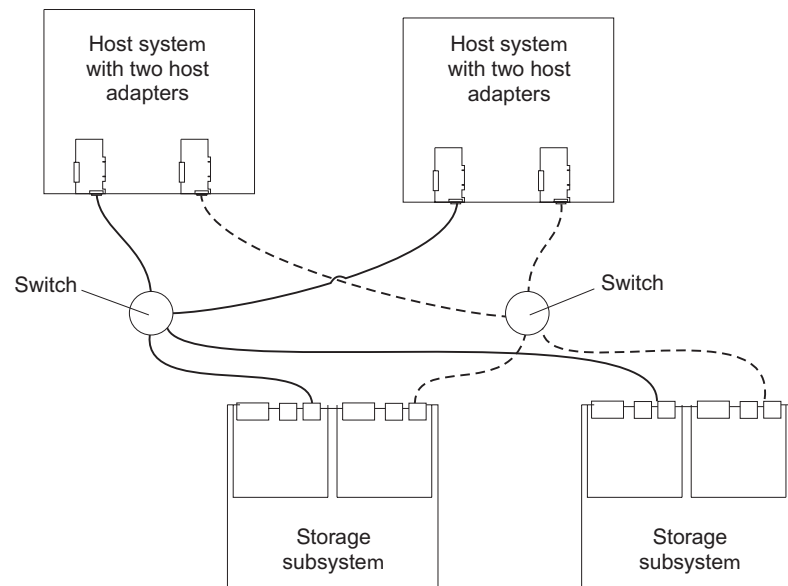

Figure 58. Example of two storage subsystems in a dual SAN environment
- Two storage subsystems in a dual SAN fabric configuration, as shown in Figure 58 on page 87
In Figure 58, the Fibre Channel switches are not connected together. Each switch forms its own SAN fabric.